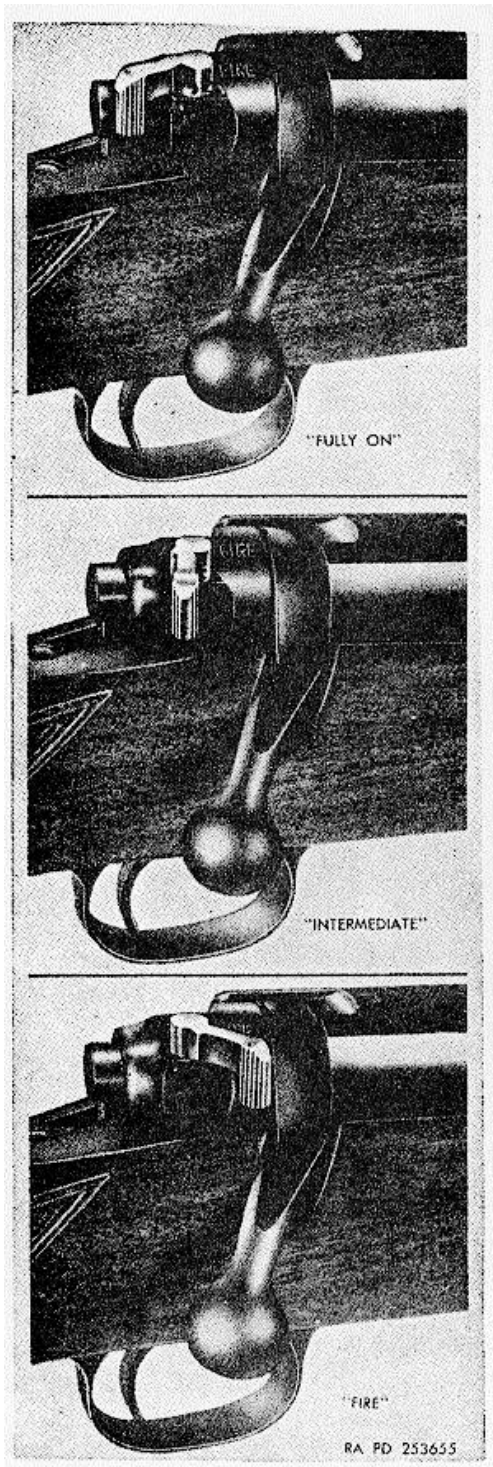

Figure 31. Three positions of safety lock (Winchester rifle model 0).
- (1) *General.* The safety lock (fig. 31) is located at the rear of the bolt. It is knurled and shaped to fit the thumb.